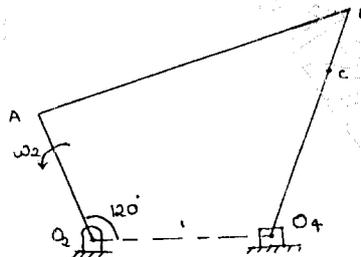

Fig. Q3(b)
b. For a four bar mechanism shown in Fig. Q3(b), determine the acceleration of a C and angular acceleration of link 3 when crank 2 rotates at 20 radians per second.